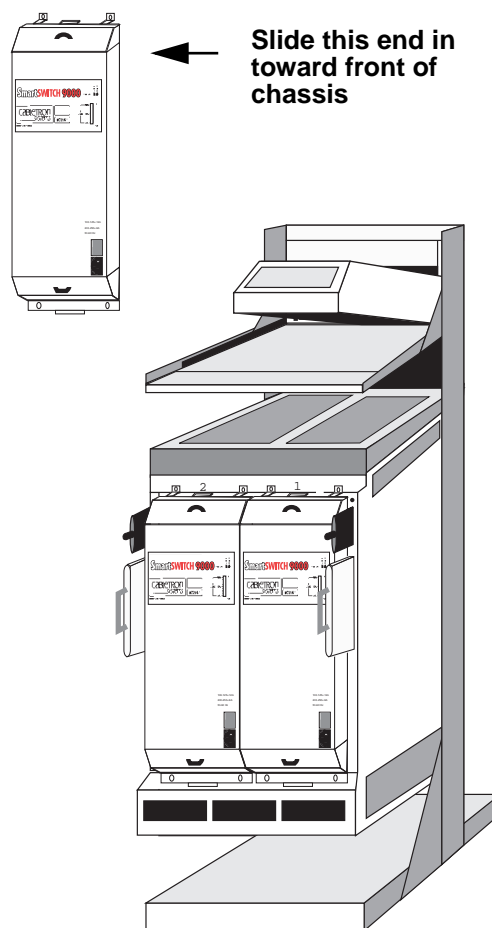

Figure 1-2. Installing Power Supply (Supplies)
Two power supplies (either two 9C214-1 AC, or two 9C214-2 DC; but not one of each) can be installed in a power box. The power supplies installed in the power box must be identical to those attached to the back of the SmartSwitch 9000 Chassis. For example, if two 9C214-1 AC Power Supplies are attached to the SmartSwitch 9000 Chassis, only 9C214-1 AC Power Supplies can be installed in a power box. Power supplies are installed from the rear of the power box (looking from the back of the power box to the front refer to Figure 1-2). The first power supply is installed in the right side of the power box, the second is installed in the left side. Complete the installation by following the steps below:
5. Align the front of the power supply in the center of the two rails in the right side of the power box and slide the power supply toward the front of the equipment rack (Figure 1-2) until the tab on the power supply is inserted in the slot in the front of the power box.